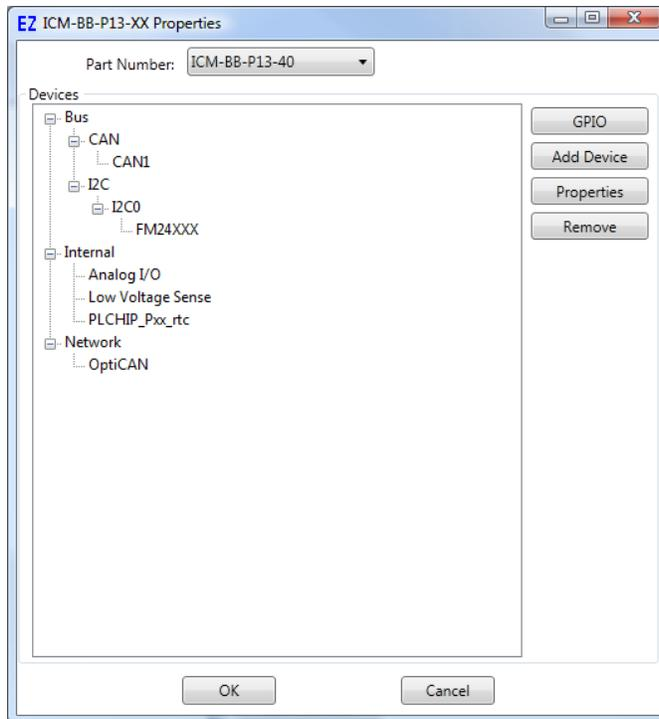

Figure 2-5 - ICM-BB-P13-XX Properties
- Click the **PROPERTIES** button to the right side of the window. The ICM-BB-P13-XX Properties Window will open. Refer to Figure 2-5.